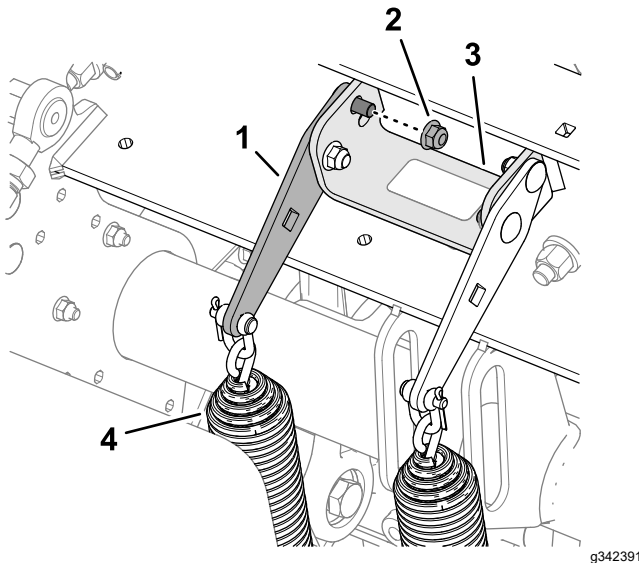

**Figure 109**
2. Loosen the forward flange locknut and carriage bolt that secure the spring-tension plate to the support bracket of the coring head (Figure 109).